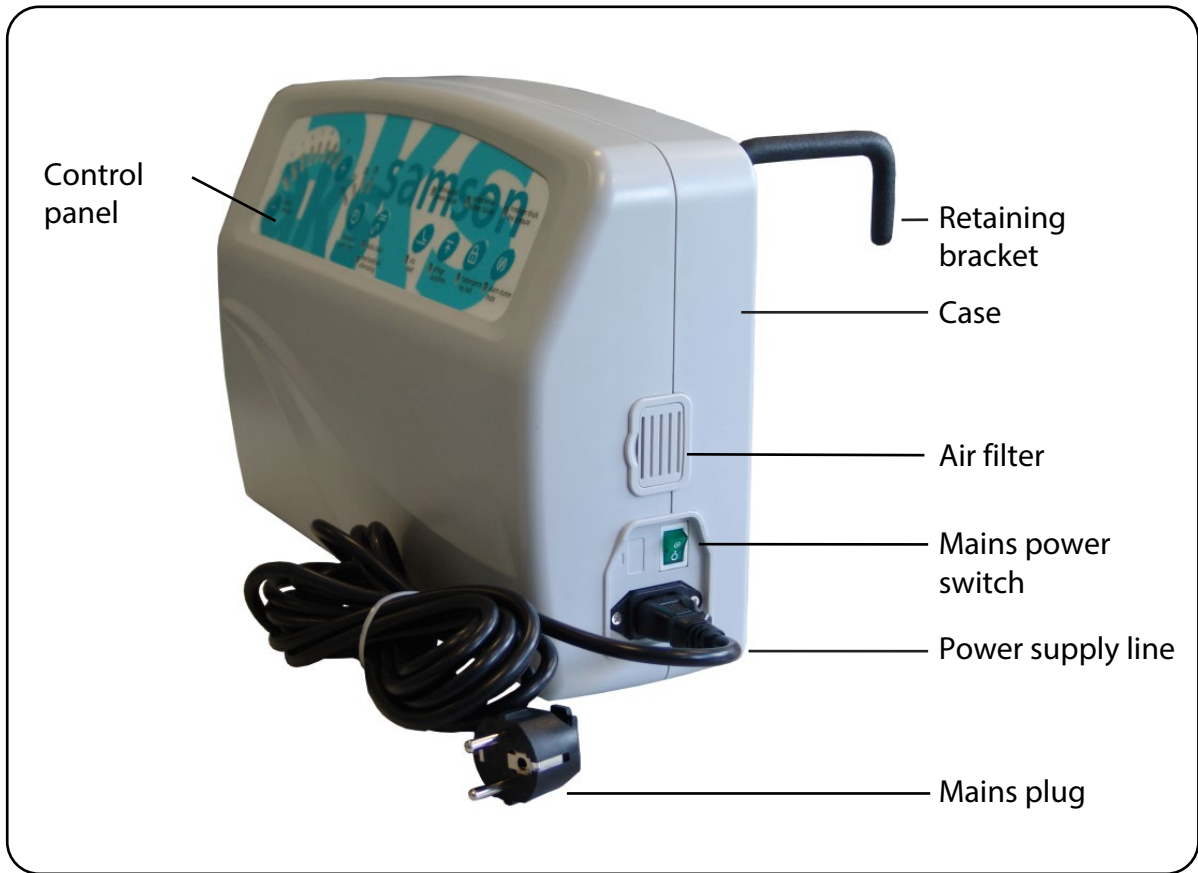

Fig. 5.01 - Front view of pump unit
12. Check that the mains power switch (green) of the pump unit is set to “off” (0). The mains power switch is located on the right-hand side of the case (Fig. 5.01).
1. Switch on the pump unit using the mains power switch (Fig. 5.01). The operation indicator lamp in the mains power switch lights up green and a short signal tone sounds.